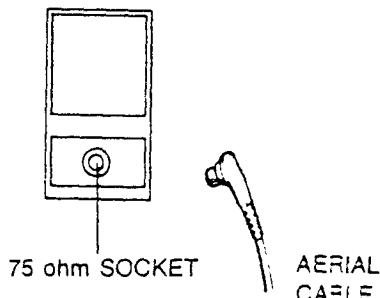

Figure 3
- In case of using the coaxial cable (75 ohm) for UHF aerial, connect the plug (refer to figure 4) into the 75 ohm socket as shown in figure 3.